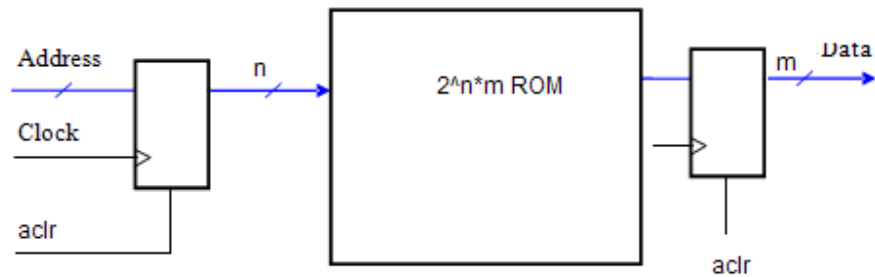

Figure 4
5. In page 4, select the setting called 'q' output port under the category "Which ports should be registered"? This setting creates a ROM module that matches the structure in Figure 4, with registered input ports and registered output ports. Select aclear for output register. Click Next.